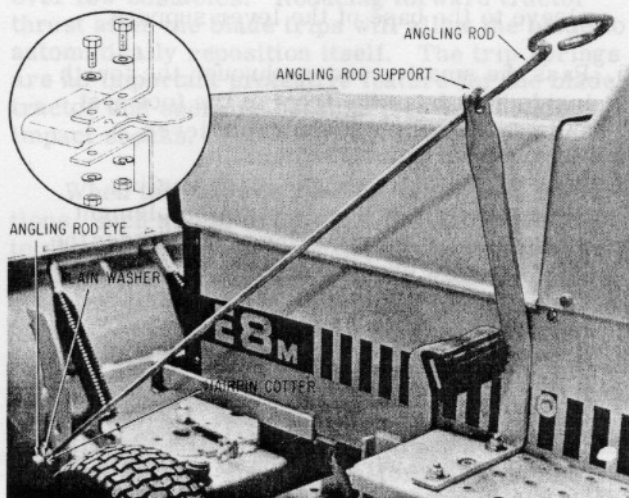

Figure 1
1. Attach the angling rod support and support bracket to the left foot rest. Secure with bolts, plain washers, lockwashers and nuts along the front row of holes in the foot rest in the order shown in Figure 1.